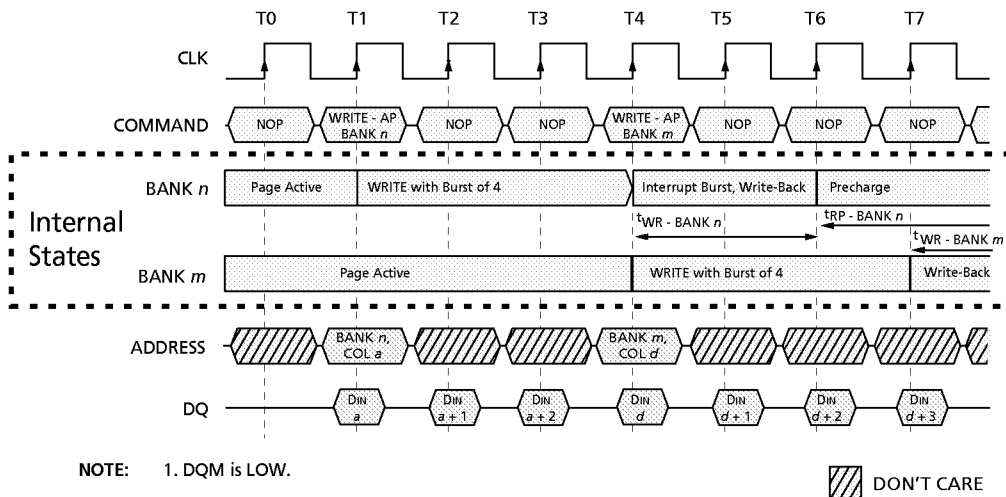

Figure 27
4. Interrupted by a WRITE (with or without auto precharge): A WRITE to bank *m* will interrupt a WRITE on bank *n* when registered. The PRECHARGE to bank *n* will begin after t_{WR} is met, where t_{WR} begins when the WRITE to bank *m* is registered. The last valid data WRITE to bank *n* will be data registered one clock prior to a WRITE to bank *m* (Figure 27).